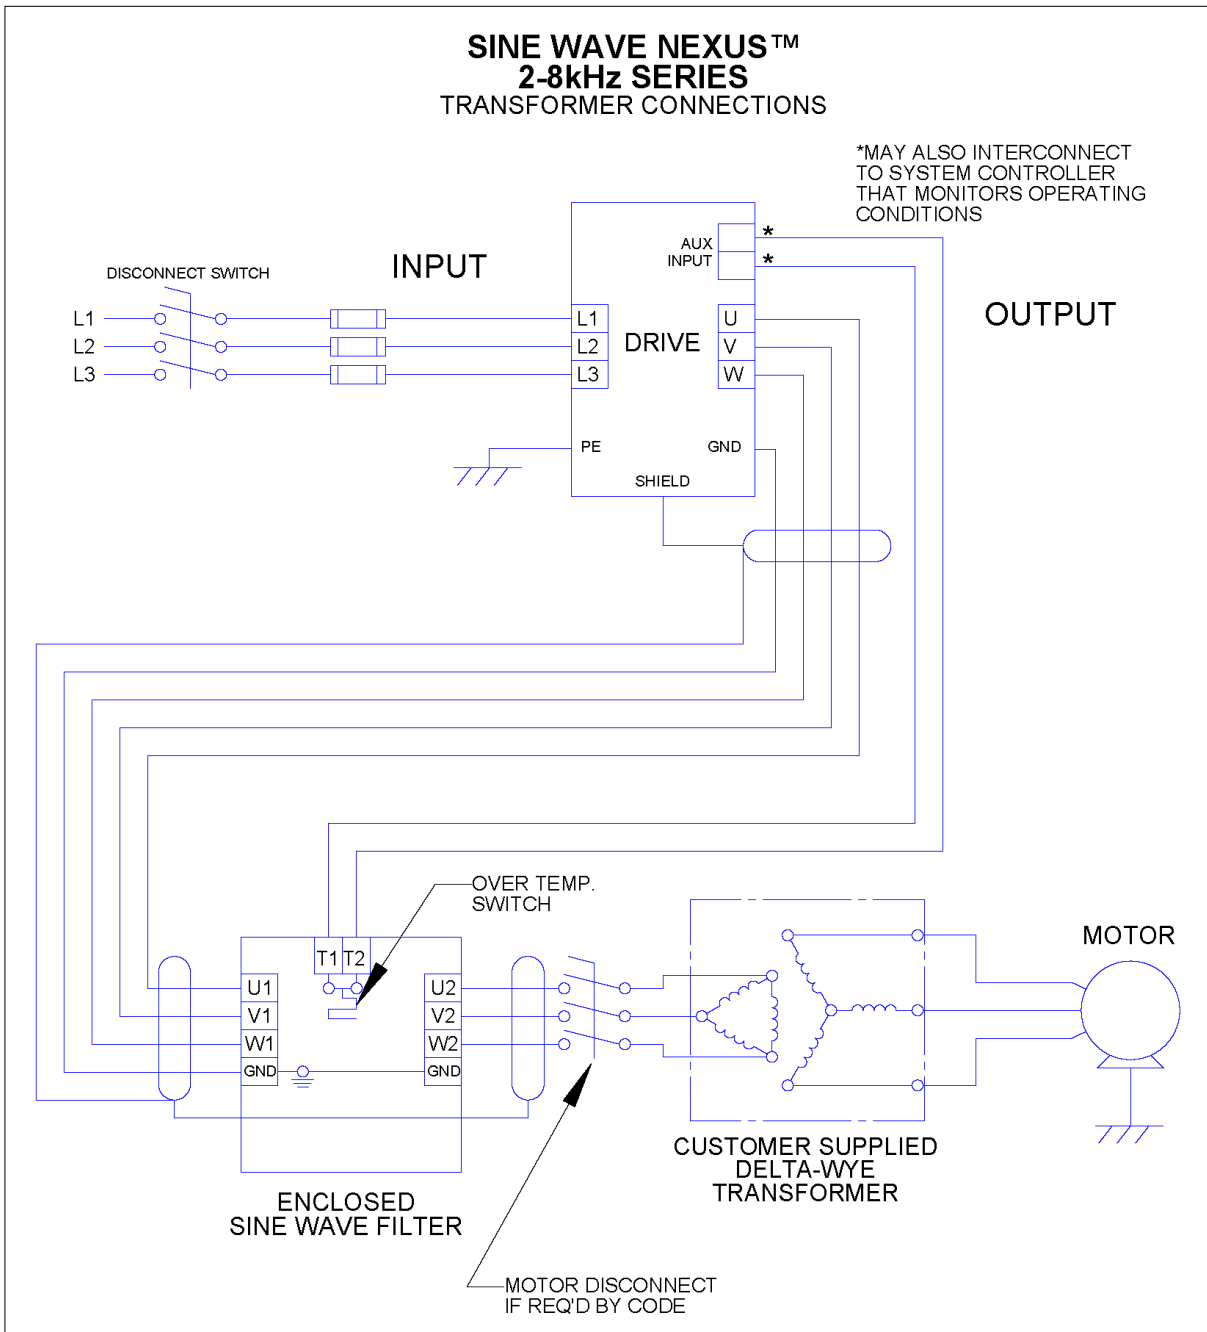

Figure 5-4: Transformer Diagram
- For transformers, interconnection between the power source, the filter, the motor and the drive is shown in Figure 5-4: Transformer Diagram (p27).